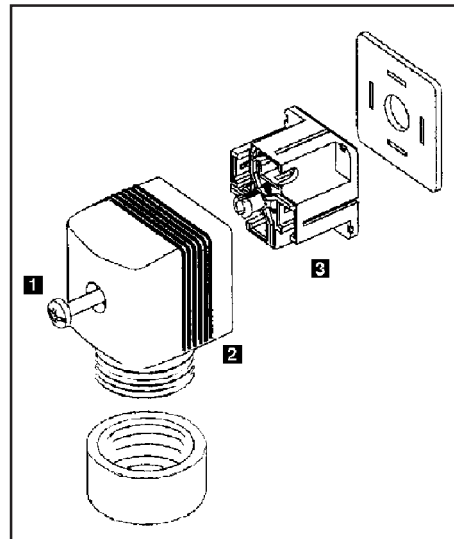

Fig. 3.4 Plug assembly Type 2508
1. To open the connector remove screws (Fig. 3.4).